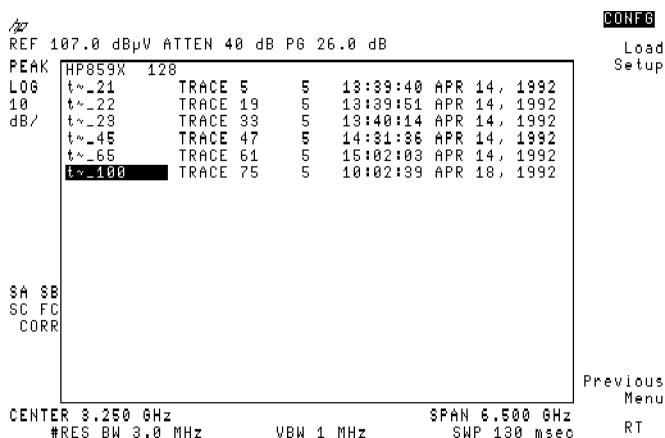

Figure 3-49. Selecting Custom Setup File
36. Scroll to the desired file (in this case, 100). See Figure 3-49.